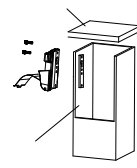

Figure 25
6.MOUNTING BRACKET INSTALLATION (DM)
Step 1: The base has hole patterns that are compatible with most existing pole drill holes. If necessary, drill new holes in pole. Feed supply wires from inside the pole through the mounting bracket base.(Figure 25)